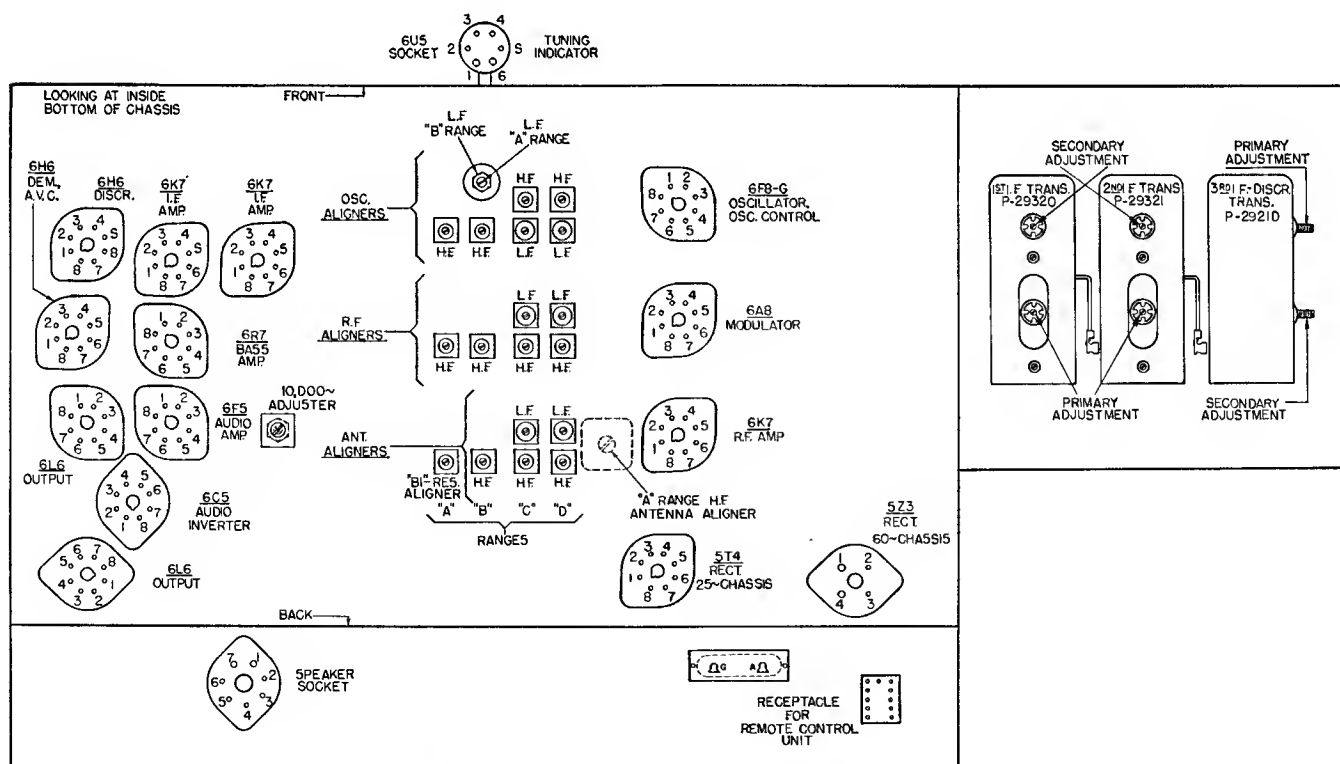

Fig. 1. Terminal Layout for Voltage Measurement Chart and Location of the Aligning Adjustments.
The various values of voltages listed in the following table are obtained by measuring between the various tube socket contacts and the chassis base, with all the tubes in their respective sockets. The receiver is, therefore, in operation when the measurements are made. Figure 1, shows the terminal layout of the sockets with the proper terminal numbers.
Before proceeding with the alignment of any circuits in these receivers, be sure that the Treble Control knob is set for the "Normal" position. The "Bass" control should also be set for the "Normal" position. In making any alignment adjustments always adjust the test oscillator's output voltage to the minimum value where a good alignment may still be obtained, except when specifically directed otherwise in these instructions. Figure 1 shows the location of all the aligning capacitors or adjustments for these receivers.
3. Now, noting from Figure 1, the alignment adjustments for the First, Second, and Third I. F.-Discriminator transformers, align the I. F. circuits in the following order: